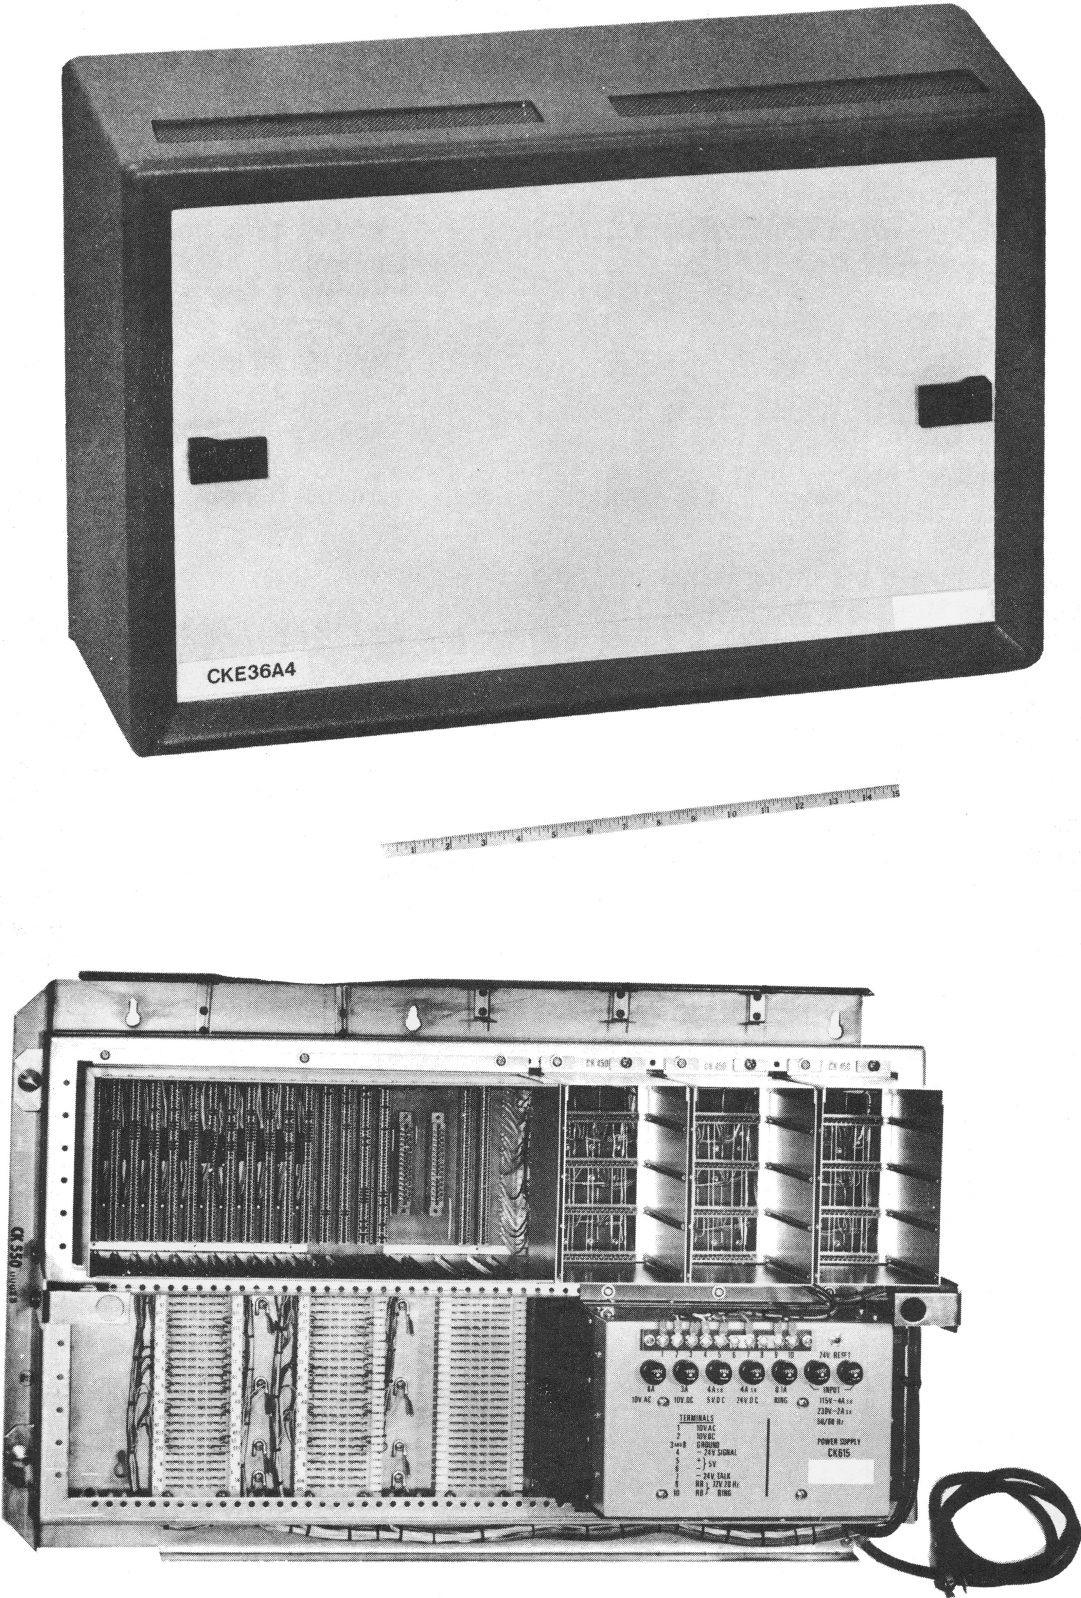

FIGURE 1 CK550-1 KSU
2.1 The CK550-1 KSU (figure 1) is a metal backboard upon which are assembled five quick-connect connecting blocks, cable clamps and cable hooks for station cables, and a mounting frame hinged and locked to the backboard. Mounted on the hinged mounting frame are three CK450 Apparatus Mounting Assemblies, a CK364 Surround/Mother Board Assembly, a power distribution terminal board, and a CK615 Power Supply. An optional wooden backboard (181589-101) may be ordered.